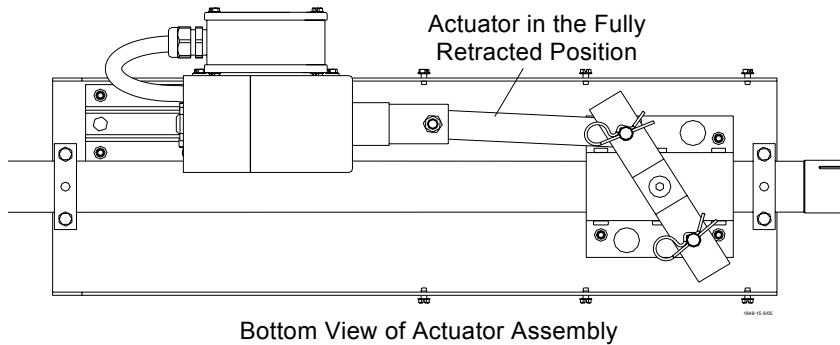

Figure 63. Actuator in Fully Extended Position
2. Manually operating one actuator at a time run the actuator to the retracted position, **see figure 63**.
4. Attach a spring in the center groove at the second anti-roost bracket and cut the cable at this point. See **Figure 63**.
5. Thread the ends of the cable through the end of the spring. Pull the cable tight so that there is 3/4" to 1" [20 to 25 mm] of stretch in the spring. Clamp the cable to form a loop and cut off any excess. See **Figure 63**.
6. Attach the cable to the insulator. For best results, make a double loop around the anti-roost insulator in the center groove of the insulator and fasten with a 1/16" cable clamp as shown in **Figure 63**.